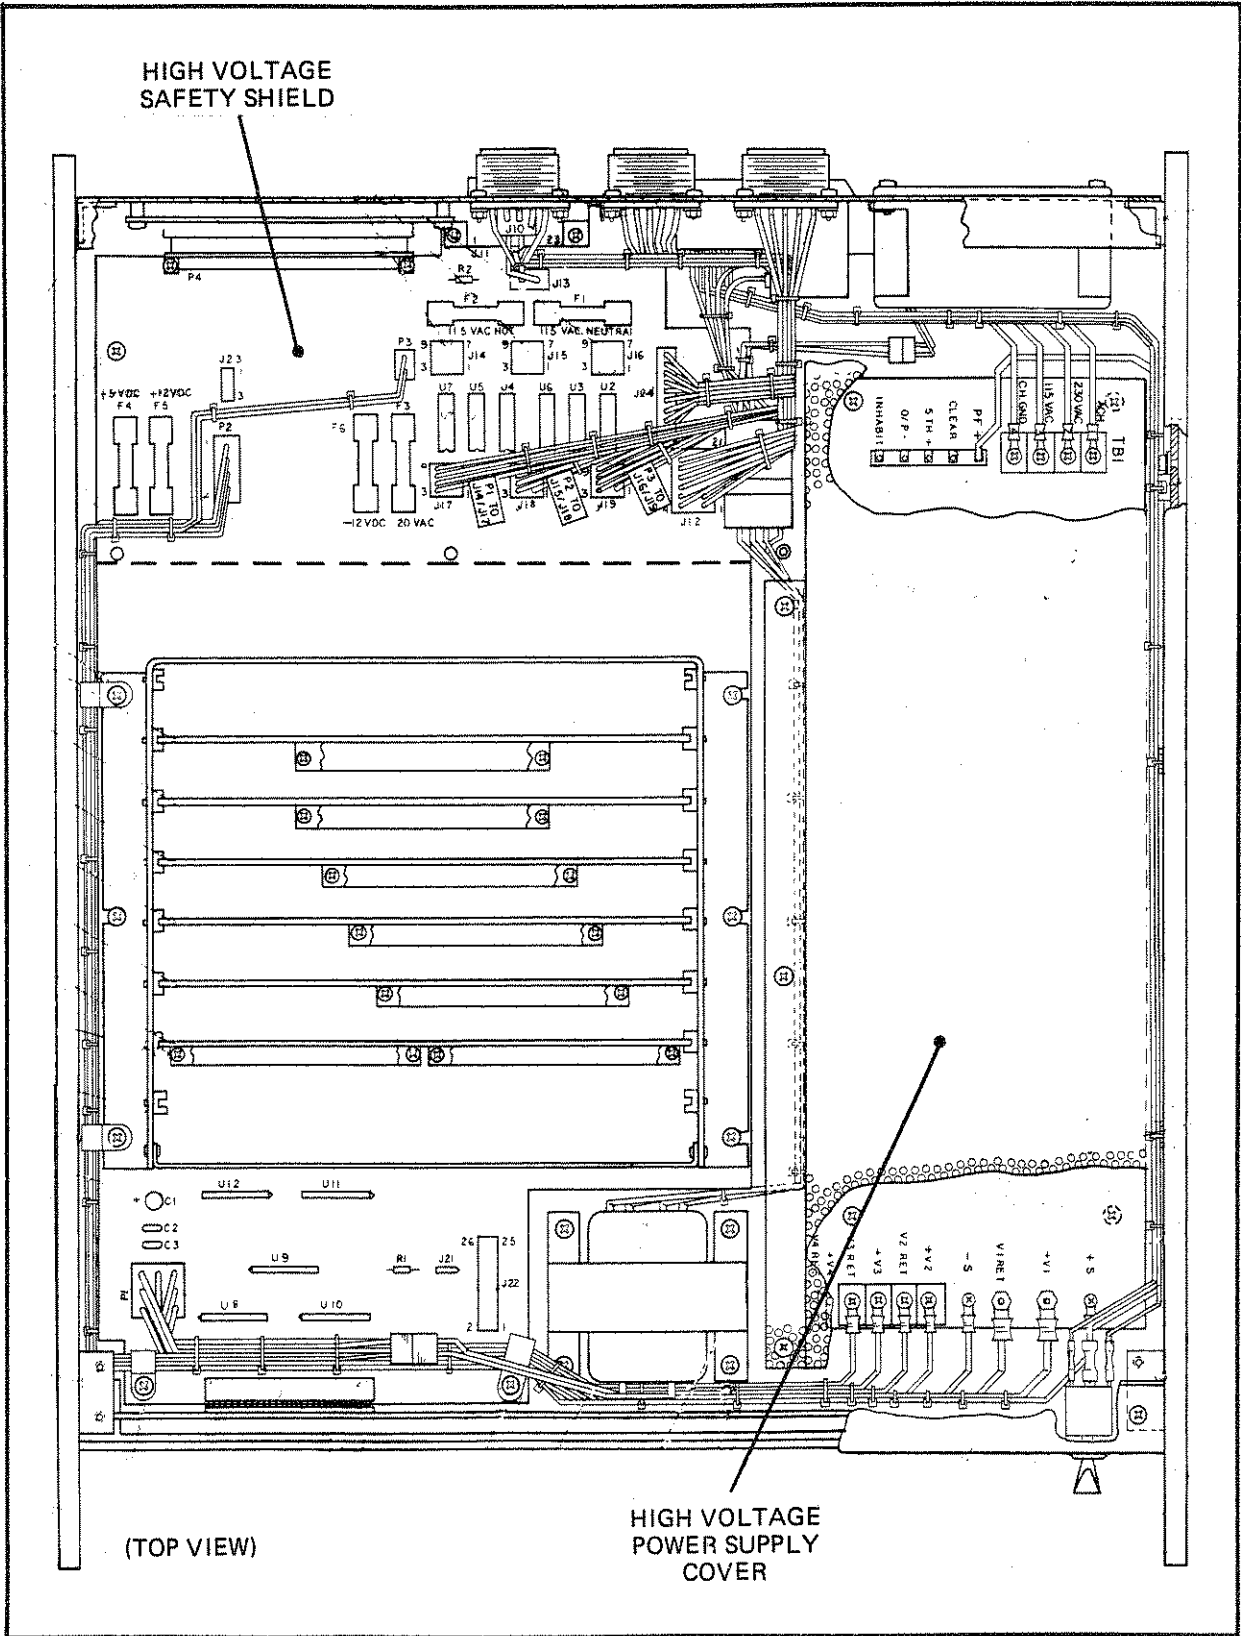

Figure 2.22. Motherboard Safety Shield Location
To gain access to the synchro input voltage selection circuitry of the Motherboard assembly, first remove the top cover of the unit. The safety shield should now easily be located toward the rear portion of the Motherboard assembly as shown in Figure 2.22. Remove five mounting screws securing the safety shield and lift the shield away from the Motherboard to expose the selection circuitry.
2. Locate connectors P1 through P3 connected to the Position Input connector harness (refer to Figure 2.22). Connect plug P1 to J17, P2 to J18, and P3 to J19, as shown in Table 2.10.
2. Locate cables P1 through P3 connected to the Position Input connector harness (refer to Figure 2.22). Connect plug P1 to J14, P2 to J15, and P3 to J16, as shown in Table 2.10.